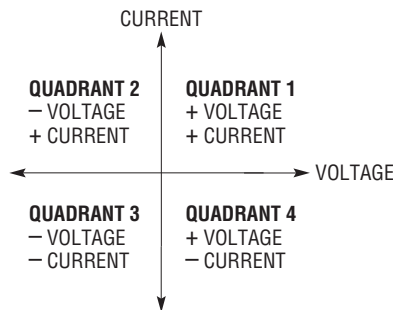

Figure 1. Quadrants of supply operation
Figure 1. A conventional power supply is limited to operation in either Quadrant 1 or 3—it operates with positive voltage output and current sourced to a load (Quadrant 1) or with a deliberate miswire of the output, statically as a minus supply (Quadrant 3). A
**Figure 1. Power over Ethernet port current monitor.** Although the PoE standard specifies power classes, some legacy devices may not provide classification, so it's important to know how much current these devices are drawing.
When telecom power requirements include multiple and/or high power isolated outputs, a distributed bus approach offers many advantages. For example, three isolated output voltages (such as 2.5V, 3.3V and 12V) can be generated by providing individually isolated power supplies (e.g. 48V to 2.5V, 48V to 3.3V, 48V to 12V), or by distributing the bus via a single isolated supply (e.g. 48V to 12V) with individual buck regulators at the load points (See Figure 1).